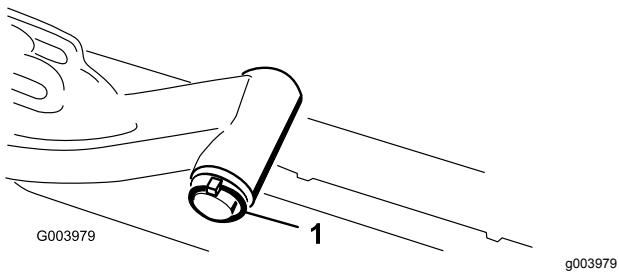

Figure 12
- A. Remove the lynch pin and washer securing the lift-arm-pivot shaft to the lift arm and slide the lift-arm-pivot shaft out of the lift arm (Figure 12).
3. Insert the lift-arm shaft into the lift arm and secure it with the washer and lynch pin (Figure 12).